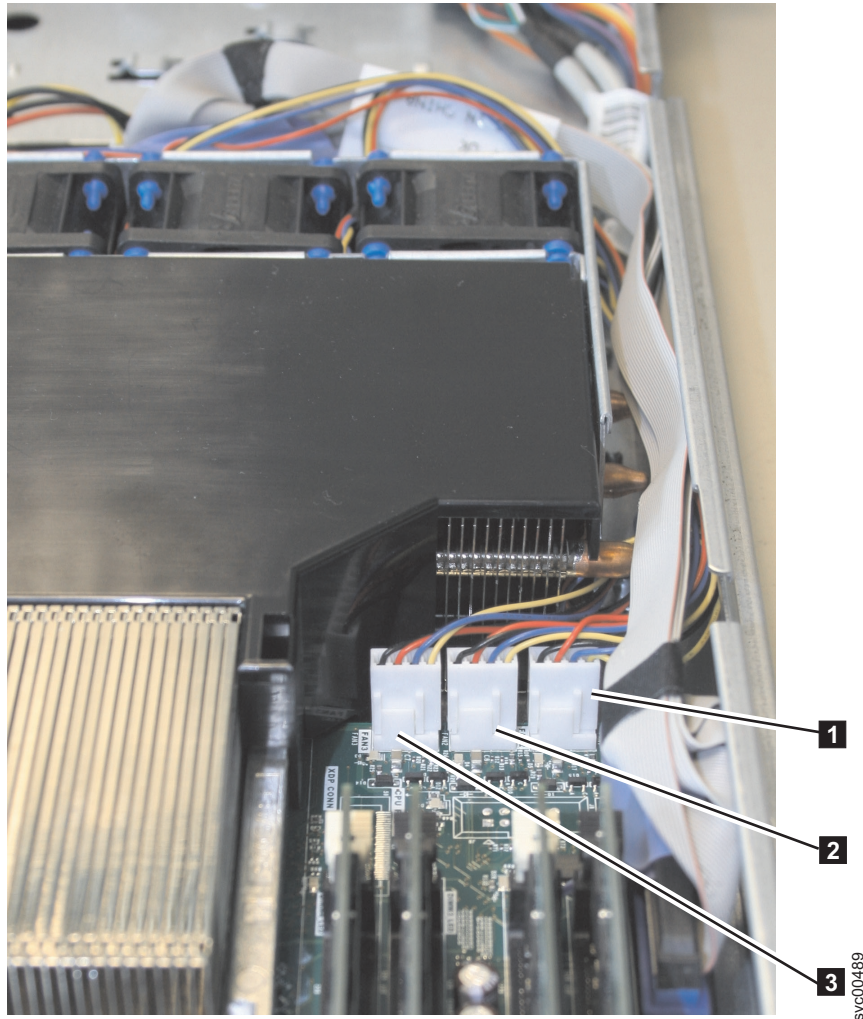

Figure 196. Connectors for the SAN Volume Controller 2145-8A4 heat exchange fans
12. Remove the five fan connectors along the front edge of the system board. Figure 196 on page 212 shows three of the fan connectors.